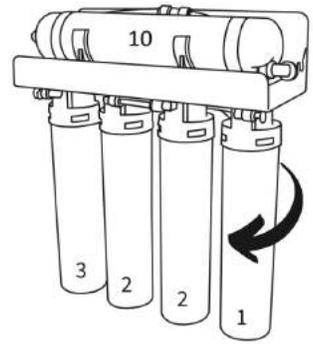

Figure 11
**First Stage Filtration** (marked as 1 on figure 11) - 5 Micron Sediment Filter. MPN: RC-FT-82. Replace every 12 months or as needed.
**Second Stage Filtration** (marked as 2 on figure 11) - Carbon Block Filter x 2. MPN: RC-FT-92. Replace every 12 months or as needed.
**Third Stage Purification** (marked as 10 on figure 11) - 75 Gallon Per Day RO Membrane. MPN: ZIPM75. Replace every 24 months or as needed.
**Fourth Stage** (marked as 3 on figure 11) - AlcaPure Post Filter, MPN: RC-FT-87. Replace every 12 months or as needed. OnliPure Post Filter, MPN: RC-FT-OP. Replace as needed.
- Grab the filter by hand, or use a filter strap wrench, and twist clockwise to detach See figure 11.
- Install new filters in the system in the following sequence from right to left: Sediment Filter (marked as 1 on figure 11), Carbon Filter (marked as 2 on figure 11), Carbon Filter (marked as 2 on figure 11), Post Filter (marked as 3 on figure 11).